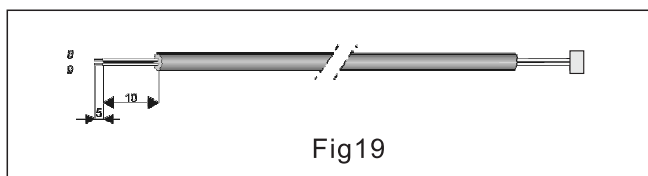

Fig19
5. Prepare the twin wire cable end for connection as shown in fig.19.
6. Disconnect the resistor (5) from the indoor unit twin wire cable (3) and connect the twin wire cable (6) connector instead.
7. connect the other end of the twin wire cable (6) to the outdoor unit twin wire terminal (9).